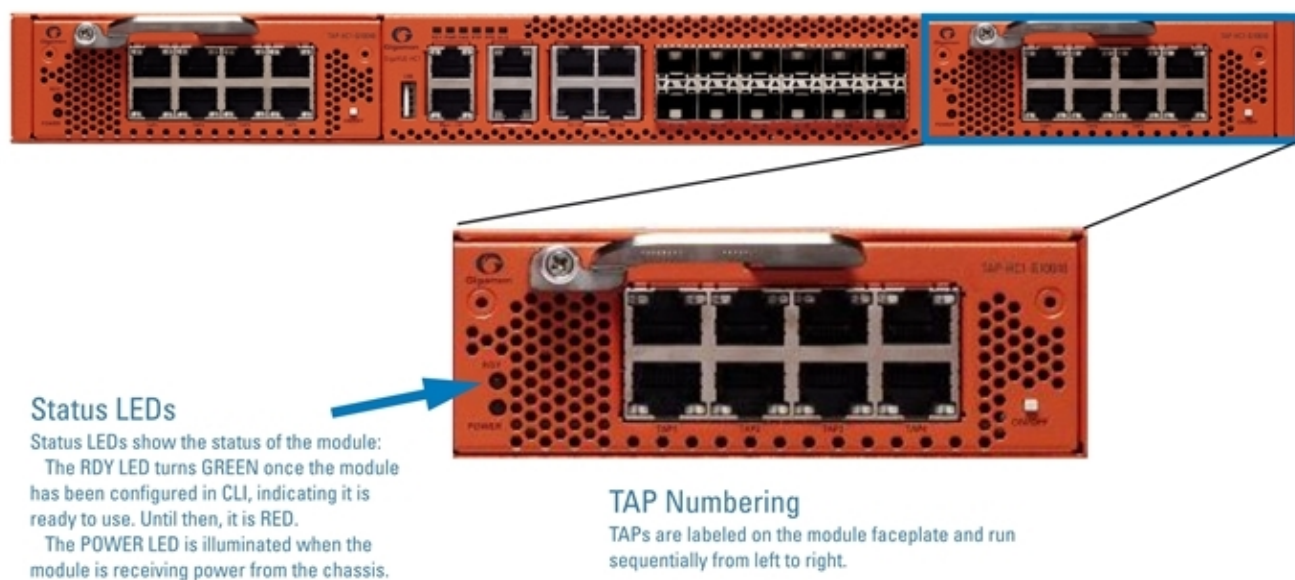

Figure 7 TAP-HC0-G10040 Module
- A port pair copies Traffic unless it is in the physical bypass state. For details, refer to Figure 7 TAP-HC0-G10040 Module.